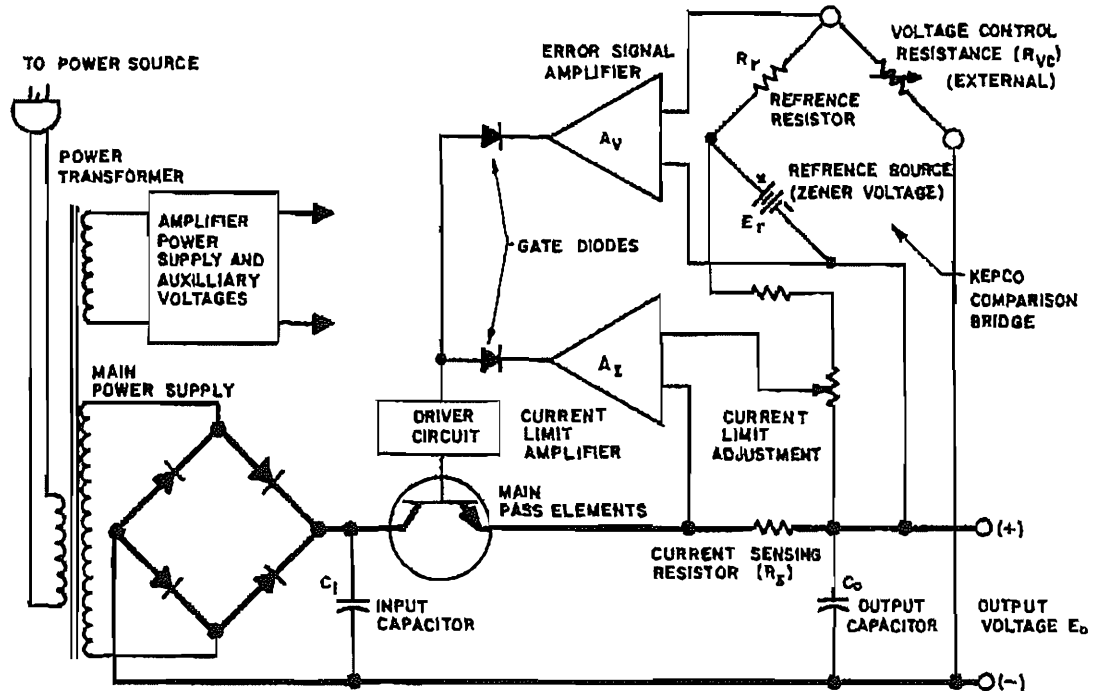

FIG. 4-1 SIMPLIFIED DIAGRAM, PAT POWER SUPPLIES.
(References in CAPITAL LETTERS refer to the nomenclature used in FIG. 4-1.)
### 4-1 SIMPLIFIED DIAGRAM DISCUSSION. (Refer to FIG. 4-1.)
- a) A-C INPUT CIRCUIT. A-C input power is introduced through rear barrier-strip TB 1, terminals (1) and (2). Terminal (3) is connected to the chassis and should always be returned to a-c ground. The fuse (F1) protects the primary of the power transformer (T201) from excessive current. T201 has two primary windings which are connected either in parallel (for 115V a-c service) or in series (for 230V a-c service).
- e) **THE COMPARISON BRIDGE.** This 4-arm electrical bridge circuit is the regulating and controlling element in many Kepco Power Supplies. In the PAT models it consists of the reference voltage  $E_r$  (CR8), the reference resistor  $R_r$  (R15 and the optional bridge current adjustment rheostat R16), the voltage control resistance  $R_{VC}$  [either the optional internal control R13 or the resistor externally applied between terminals (11)-(12) on TB1], and the output voltage  $E_o$ . As shown in FIG. 4-1, the internal reference voltage  $E_r$  in series with the reference resistance  $R_r$  is continuously compared with the output voltage  $E_o$  in series with the voltage control resistance  $R_{VC}$ . At balance ( $E_{AA'} = 0$ ), a constant bridge current  $I_b$  flows through the bridge, keeping the error signal at bridge terminals A-A' at approximately zero volts. Any deviation in  $E_o$  caused by a-c source, load variations, or other influences will tend to change  $I_b$  in the bridge circuit and thereby produce an error signal at the bridge terminals A-A'. This error signal is then amplified by the error signal amplifier  $A_V$  and acts as a control signal for the series regulator or pass element changing the voltage drop across it in such a way as to restore the previous output voltage level.